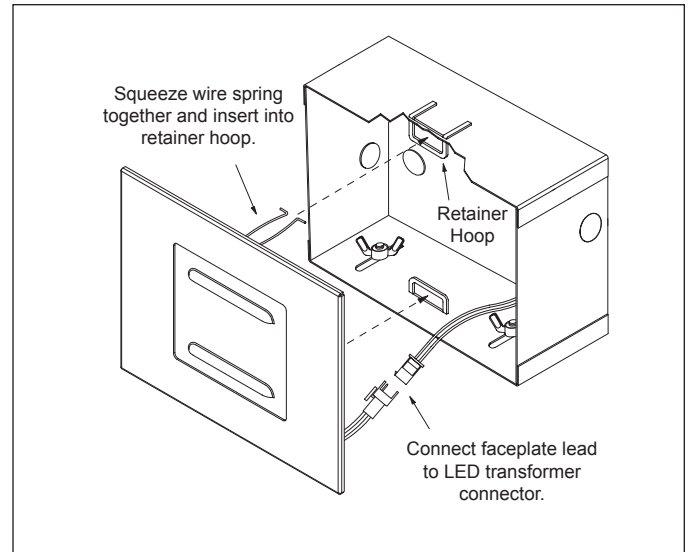

Figure 3
10. Connect the lead extending from the faceplate to the LED power supply lead with the quick disconnect connector (Fig. 3).